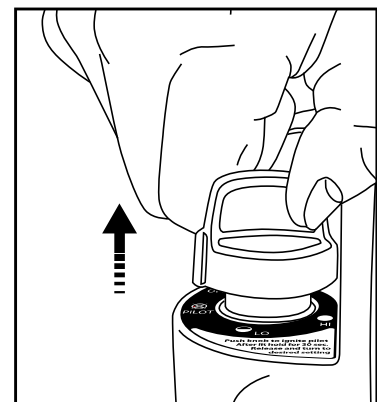

Figure 4: Release knob.
- After pilot lights, hold down for 30 -60 seconds and then release knob. Knob should return to fully extended position; see Figure 4. To operate heater slightly depress knob and gently turn to lock in the "HI" position to light burner tile. Leave on "HI" position until burner tile turns bright orange.
- After pilot lights, hold down for 30 -60 seconds and then release knob. Knob should return to fully extended position. (Fig 4) The pilot should remain lit. To operate heater slightly depress knob and gently turn to lock in the "HI" position to light burner tile. Leave on "HI" position until burner tile turns bright orange.